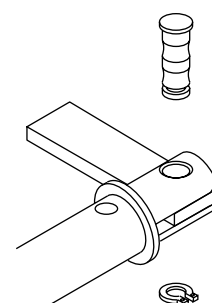

Fig. 7
- Secure the piston to the head bracket (see Fig. 7).